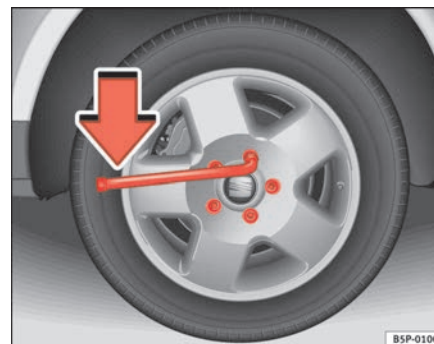

Fig. 177 Changing the wheel: loosen the wheel bolts
- Grasp the box spanner by the end turn it about one full turn to the **left** ⇒ fig. 177.